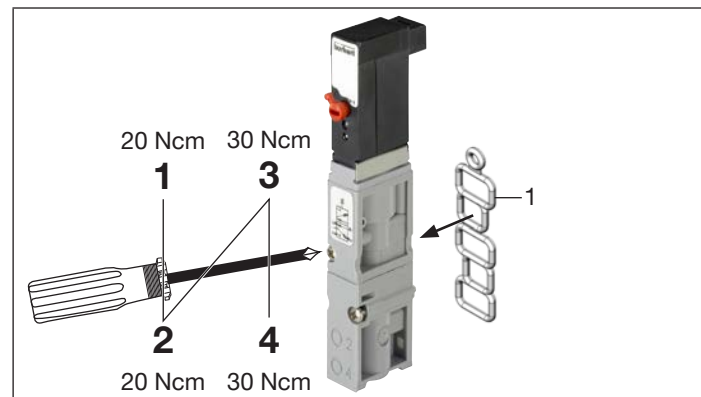

Fig. 19: Install valve on valve unit
- Tighten the fastening screws of the valves crosswise, observing the tightening torque stated in “Fig. 19”